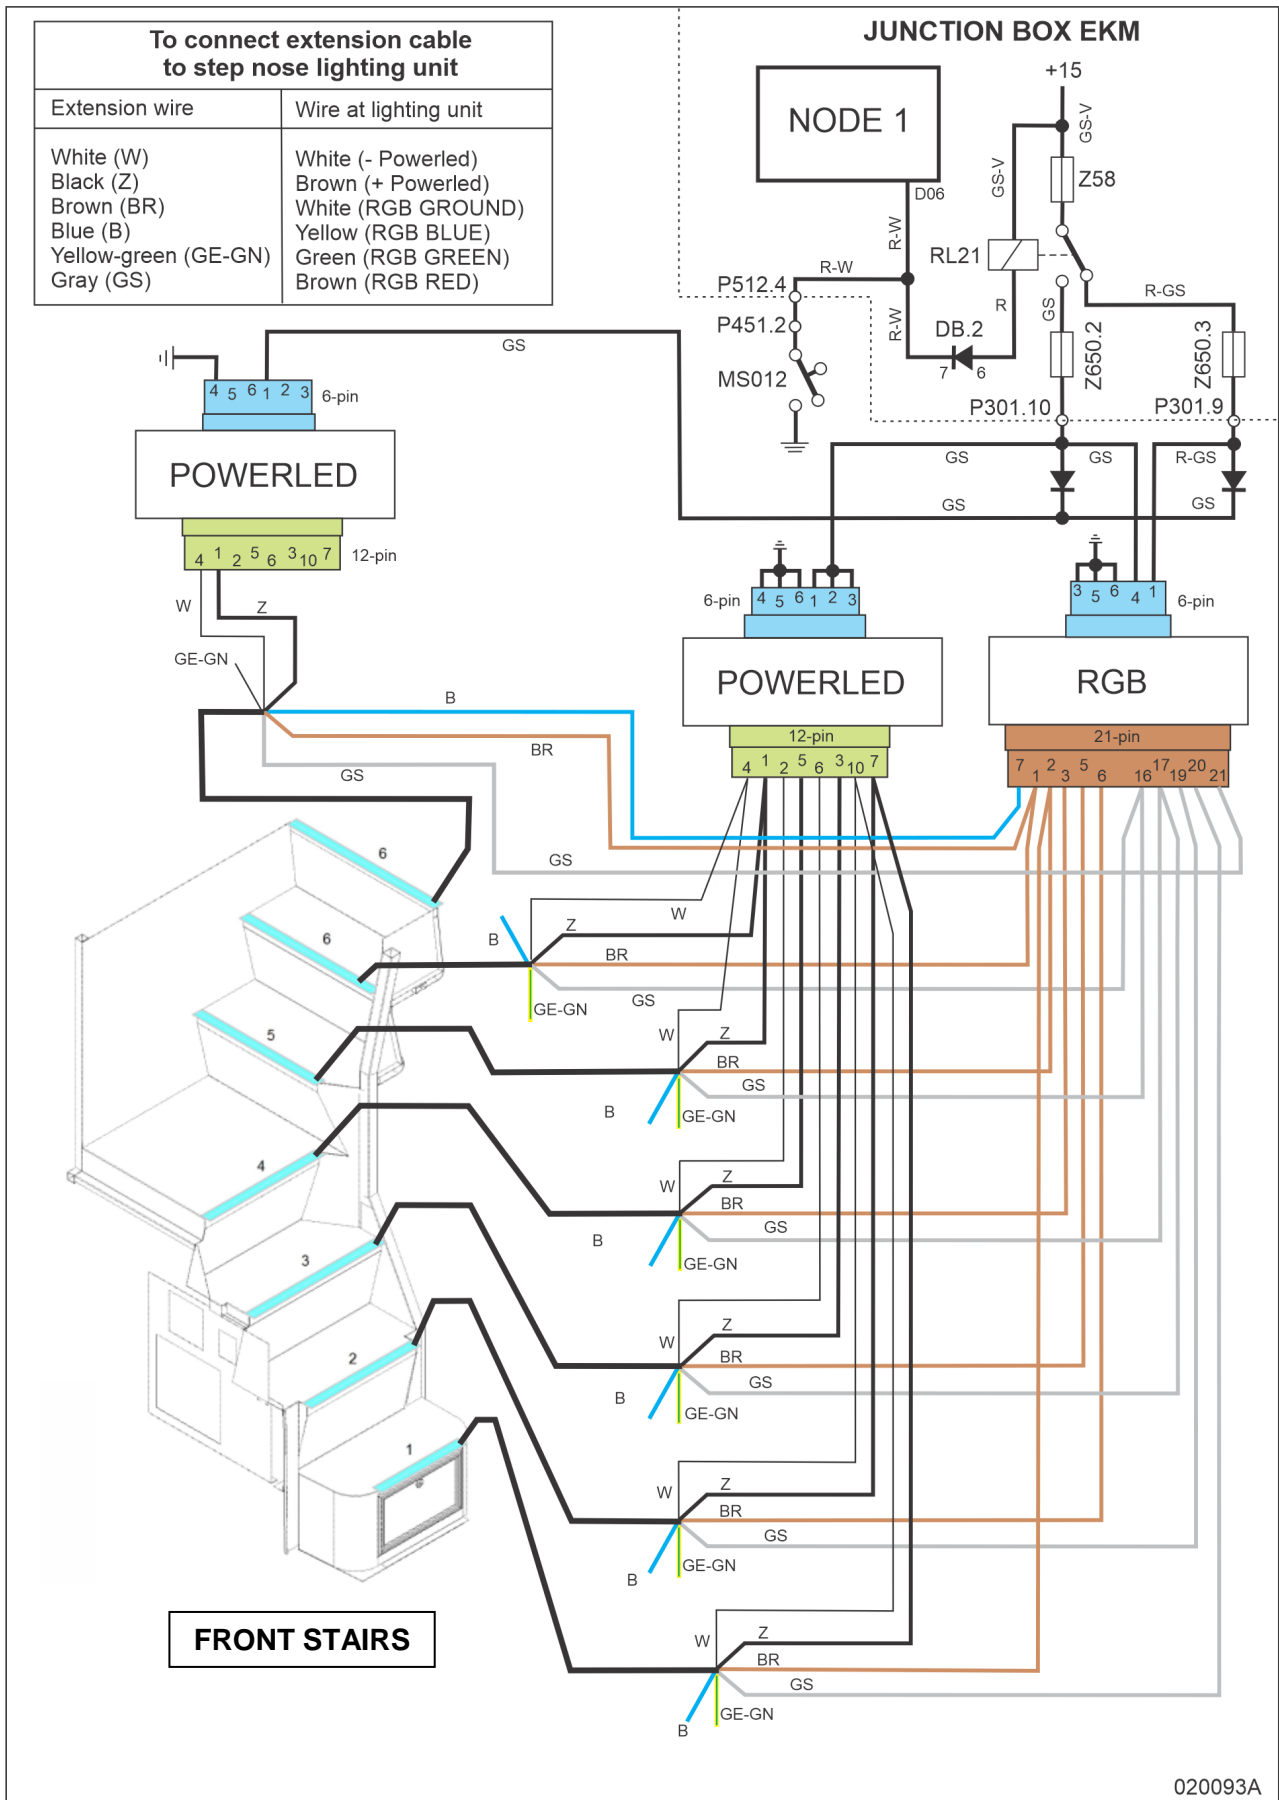

Figure 8: Wiring diagram of step nose lighting at front stairs
- Figure 8 shows the wiring harness of the step nose lighting at the front stairs. The wiring harness is connected in such a way that the “upward” light of all step noses illuminates “red” and the “downward” light illuminates “white” when the front door is open. If the front door is closed, only the upper step nose will illuminate: “upward” light illuminates “blue”, downward light illuminates “white”.